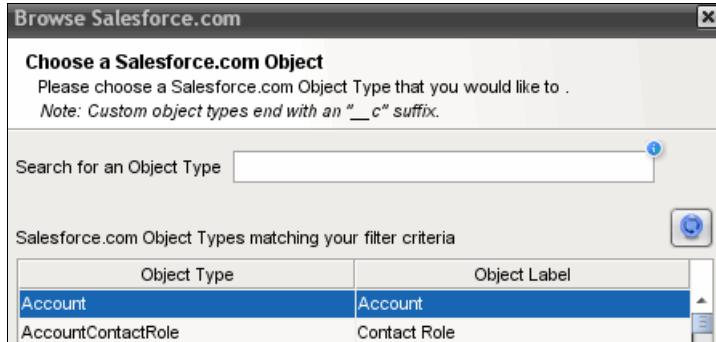

Figure 10-93 Browse Salesforce.com objects
- Click **Browse**. Select the Account object, as shown in Figure 10-93, and click **OK**.